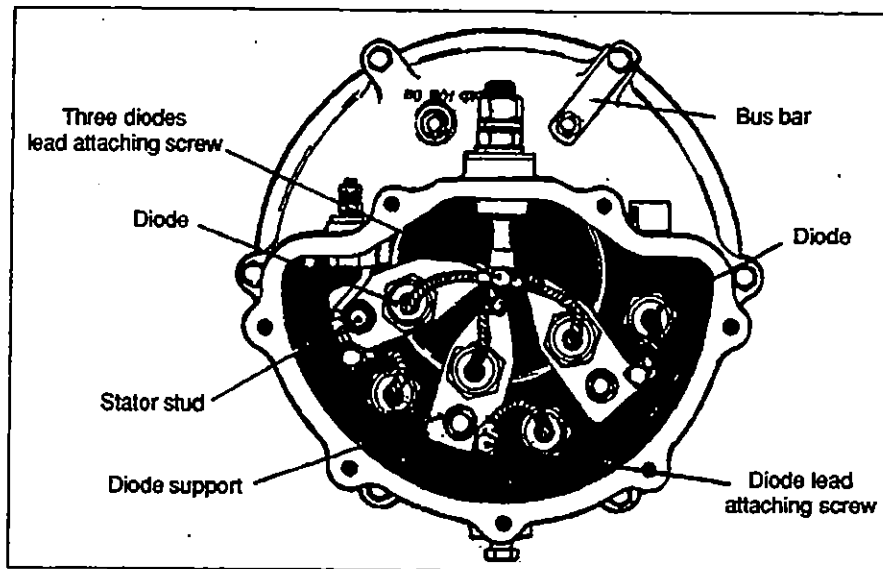

Figure 23
5. Disconnect all diode flexible leads; i.e. three from the output terminal stud and three from the diode supports. See figure 23 for more details.